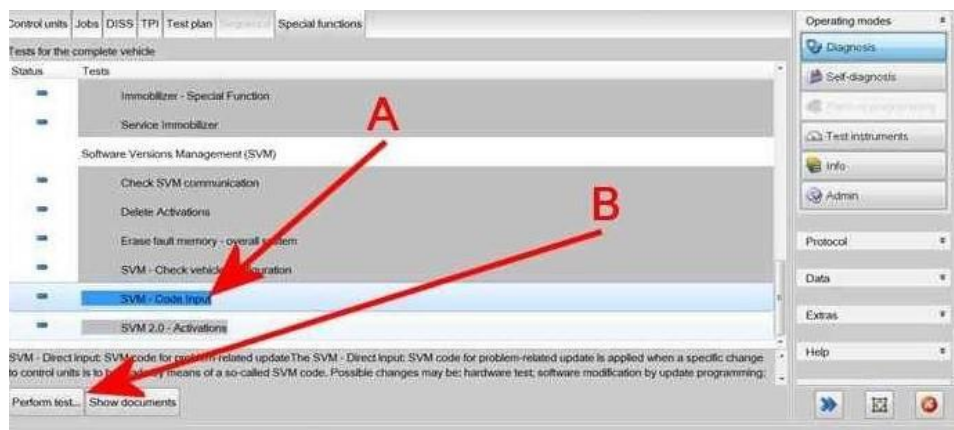

Figure 1
- Because of the highest transmission stability you MUST use the diagnosis interface VAS 6154 (WiFi diagnostic tool) ONLY in USB operation or the cable-connected VAS 5055 for the reprogramming (updating) of control units. If these units are not available, the diagnosis interface VAS 5054 (A) can also be used in USB mode
- Referring to Figure 1 - Within the Special functions tab select SVM - Code Input (A) then select Perform test (B)